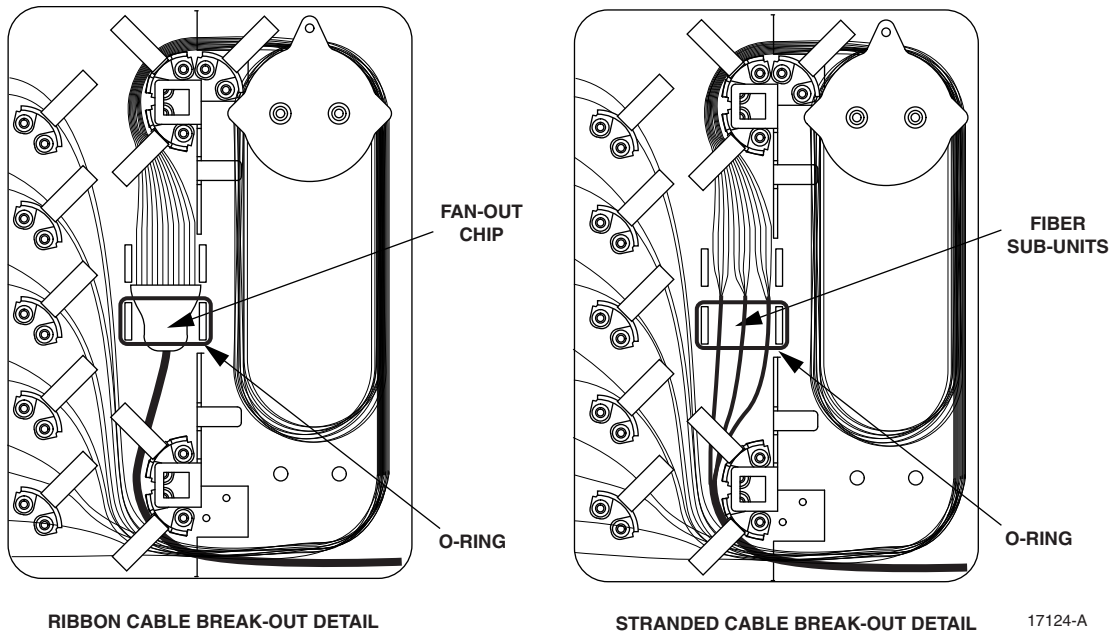

Figure 16. Break-Out Point Detail
2. Place first fan-out chip or fiber sub-unit at the break-out point as shown in Figure 16.